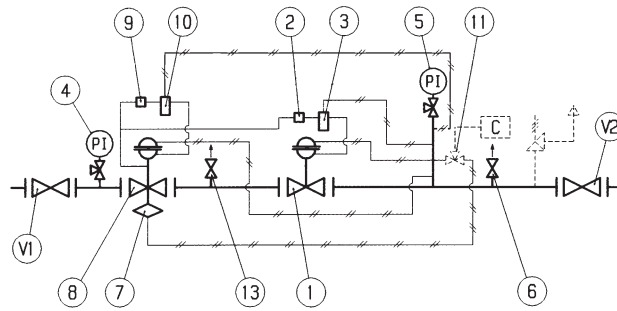

Fig. 25
5.6 MESSA IN SERVIZIO REGOLATORE REFLUX 819 PIÙ MONITOR IN LINEA REFLUX 819 CON VALVOLA DI BLOCCO INCORPORATA SB/82 (FIG. 25)
5.6 COMMISSIONING THE REGULATOR REFLUX 819 PLUS REFLUX 819 IN-LINE MONITOR WITH SB/82 SLAM-SHUT VALVE (FIG. 25)
5.6 INBETRIEBNAHME DES REGLERS REFLUX 819 MIT IN SERIE GESCHALTETEM MONITORREGLER REFLUX 819 MIT INTEGRIERTEM SICHERHEITSABSPERRVENTIL (ABB. 25)
5.6 MISE EN SERVICE DU DETENDEUR REFLUX 819 ET MONITOR EN LIGNE REFLUX 819, AVEC VANNE DE SECURITE INCORPOREE (FIG. 25)
5.6 PUESTA EN SERVICIO DEL REGULADOR REFLUX 819 MAS EL REGULADOR MONITOR EN LÍNEA REFLUX 819 CON VALVULA DE BLOQUEO SB/82 (FIG. 25)
5.6 ACTIVAÇÃO DO REGULADOR REFLUX 819 COM MONITOR DE LINHA REFLUX 819 COM VÁLVULA DE BLOQUEIO SB/82 (FIG. 25)